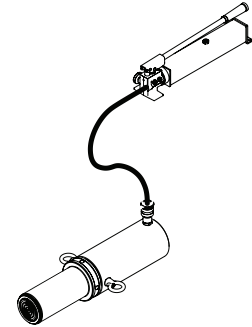

Figure 2 - Pump/ram air bleed
1. Bleed air from ram: Place pump at a higher elevation than the hose and ram as shown in Figure 2. With the objective being to force air up stream to the reservoir, close valve and extend ram as fast as possible. Open valve fully allowing oil and air to return to reservoir. Repeat procedure two or three times.